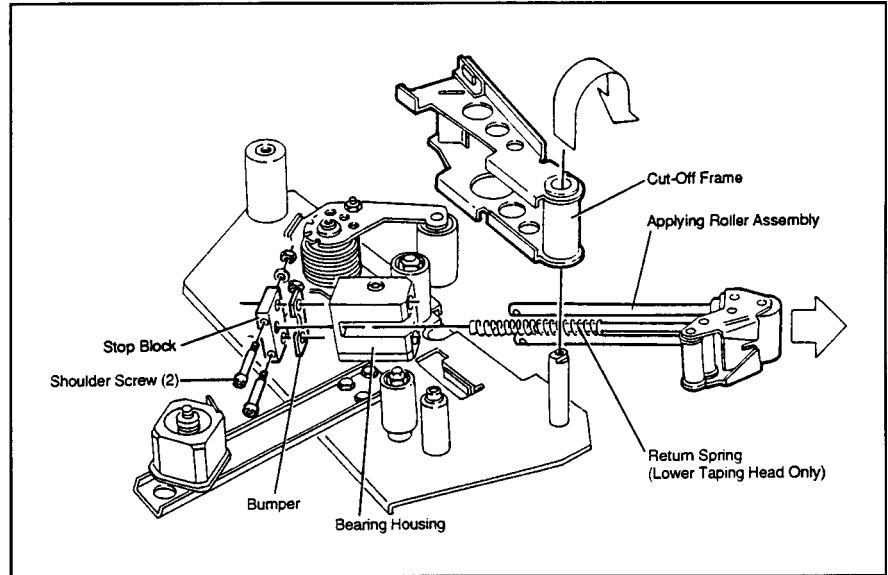

Figure 10
3. Remove the applying roller assembly as follows (refer to Figure 10):
- a. Remove the (2) shoulder screws, washers and nuts that fasten the stop block to the applying roller shafts.
4. Lift the cut-off frame out of the taping head, turn it over and lay on its side. (The side facing up needs holes drilled for the magnet holder.) Figure 10.